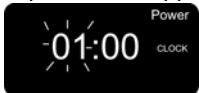

Fig. 16
2. To enter the correct time of day, press the "Increase" button until the appropriate hour appears. (Fig. 16)